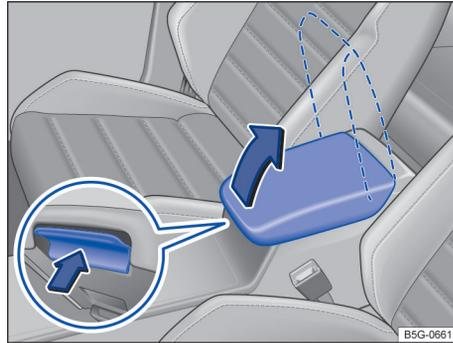

Fig. 131 In the front center armrest: Storage compartment.
- *To open:* Push the release button (magnified view) and lift the center armrest up as far as it will go in the direction of the large arrow → fig. 131.